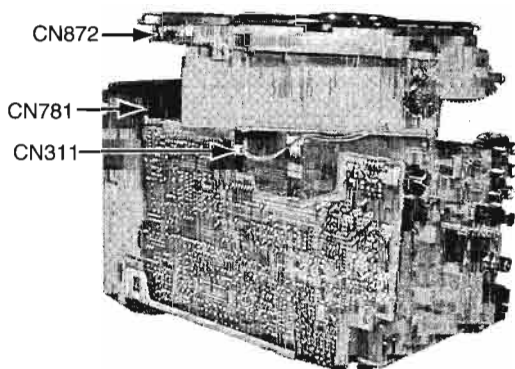

Fig. 6-1
- 8.Disconnect the connector from CN311 on the main board (See Fig 6-1).
Then the connector CN872 connected to the connector CN781 on the FL display microcomputer P.C.Board of the front assembly will be disconnected at the same time.(See Fig 6-1)